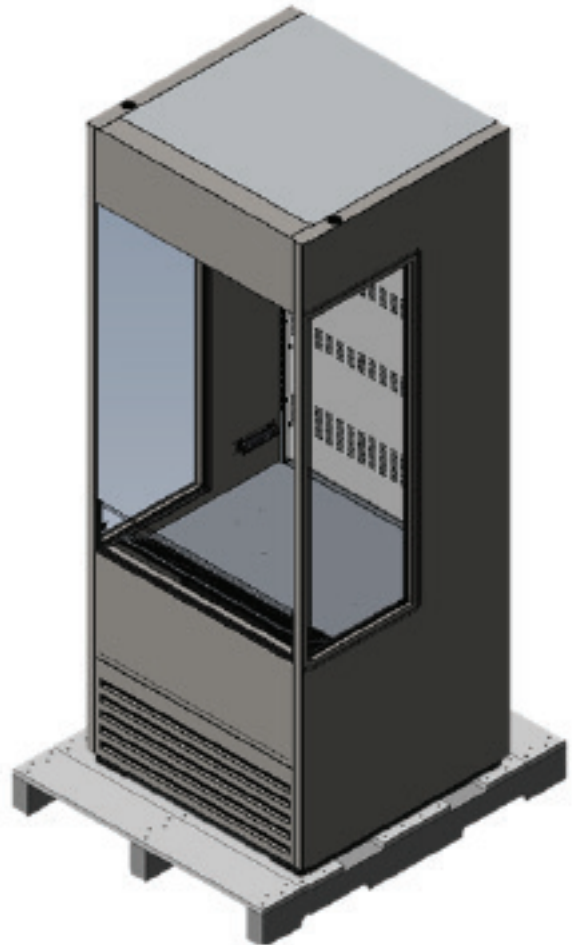

Fig. 1. Remove the outer packaging.
1. Remove the outer packaging (cardboard and bubbles or styrofoam corners and clear plastic). See fig. 1. Inspect for concealed damage. Again, immediately file a claim with the freight carrier if there is damage.